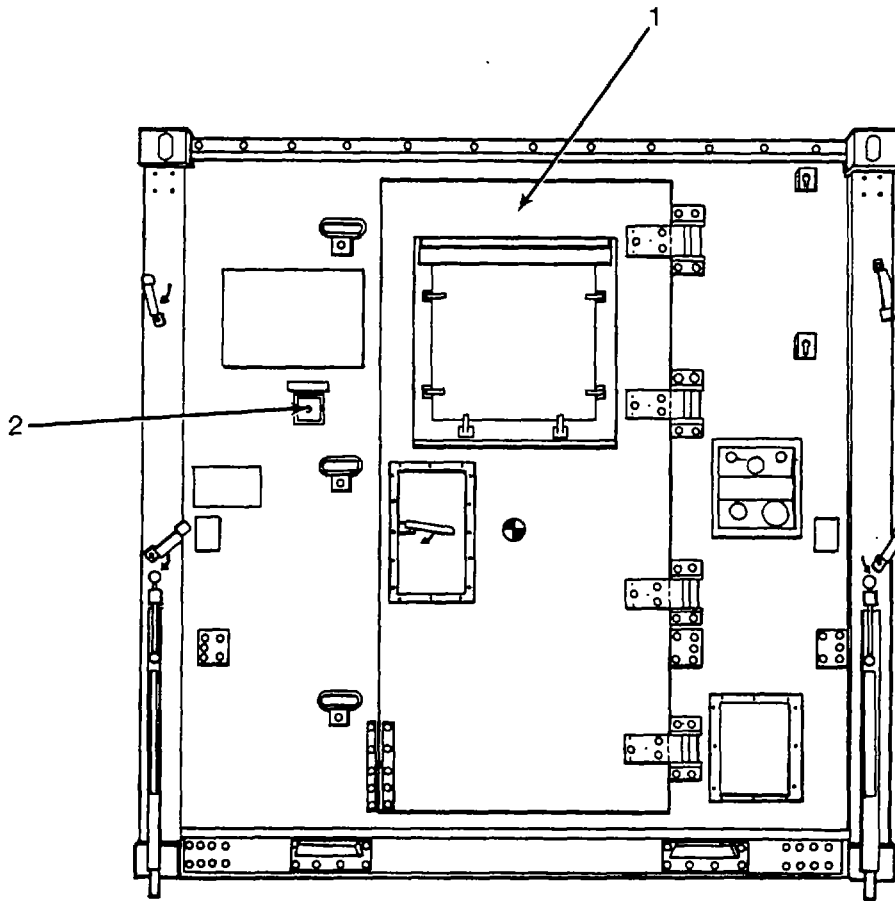

Figure 1-2. Outside Front View of Press Section
1-10. **LOCATION AND DESCRIPTION OF MAJOR COMPONENTS**. Left and right orientation is determined by facing the ISO shelter personnel door from the outside. Paragraph numbers below correspond to callouts in Figure 1-2 through figure 1-4. All equipment is located in its operational position.
a. Outside Front View of Shelter. Refer to Figure 1-2 for location of major components.
(1) Personnel Door-Provides means for entering the shelter.
(2) Blackout Button-When depressed, sounds buzzer. Used only during blackout conditions.